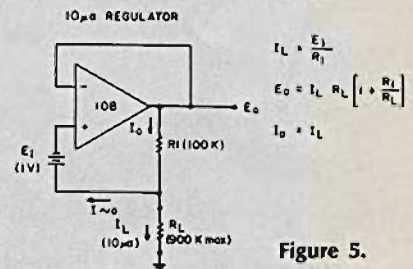

Figure 5.
3. Available load current less than Figure 5